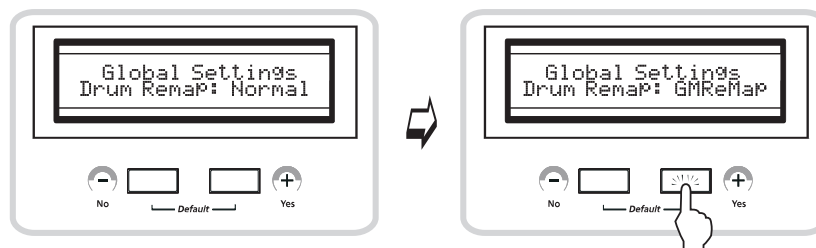

Figure 5-5
This parameter determines the layout of percussion timbres in drum programs (Unlike other programs, drums or percussion programs should consist various percussion instruments within a single patch). You can select either General MIDI style layout (GM) or Kurzweil style layout (KRZ) with [+ / Yes] and [- / No] button like Figure 5-5. The default setting is KRZ.